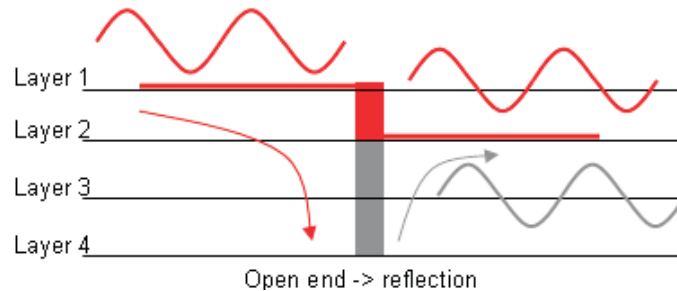

Figure 16. Reflection Caused by Stubs in a Via
In Figure 16, a four-layer stackup can be seen. The signal changes from layer 1 to layer 2. The via passes through all four layers. Thus, we get the structure of an open-end transmission line with no termination
- Consider stubs created by vias. If necessary, use blind vias or buried vias (Figure 16).